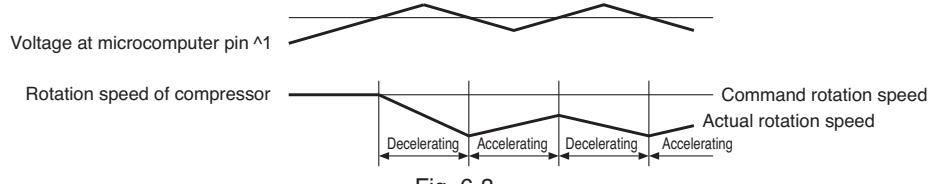

Fig. 6-3
Fig. 6-3 shows the rotation speed control. When the voltage at pin ⑥1 of the microcomputer exceeds the set value, the microcomputer decreases the rotation speed of the compressor and reduces the load.